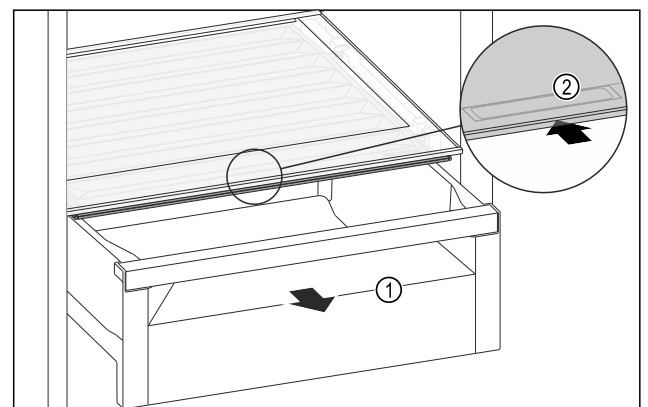

Fig. 201
- ▶ Pull out the drawer Fig. 201 (1).
- ▶ Grasp the recessed grip Fig. 201 (2) on the compartment lid and push the compartment lid backwards at the same time.